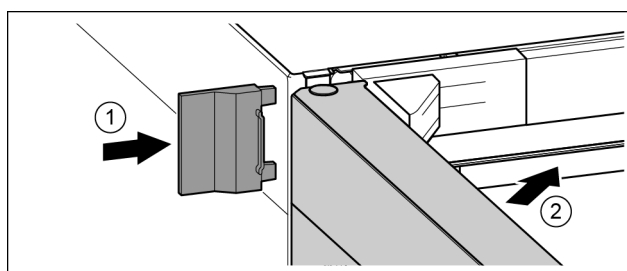

Fig. 25
- ▶ Slide on the external cover. *Fig. 25 (1)*
- ▶ Close the upper door. *Fig. 25 (2)*